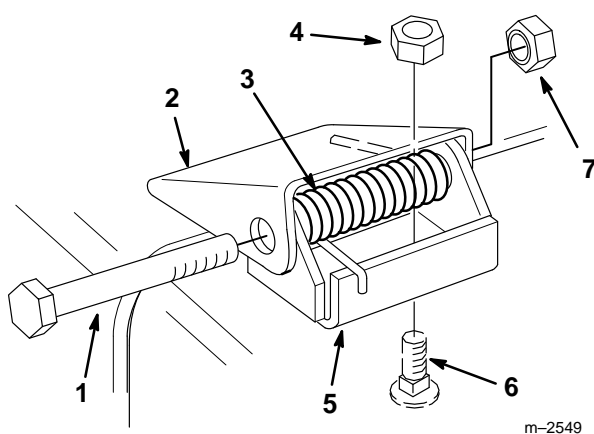

Figure 27
1. Remove the locknuts, bolts and springs holding the deflector mounts to the pivot brackets (Fig. 27).
2. If the pivot brackets need to be replaced, remove the carriage bolts and cone locknuts holding the old brackets to the top of the discharge opening, then install the replacement pivot brackets. Make sure the carriage bolt heads are on the inside of the cutting unit (Fig. 27).
3. Install the deflector mounts onto the pivot brackets with the bolts, springs and locknuts. Make sure the straight ends of the springs are positioned between the deflector mounts and the grass deflector (Fig. 27).
4. Tighten the locknuts until they contact the pivot brackets (Fig. 27).